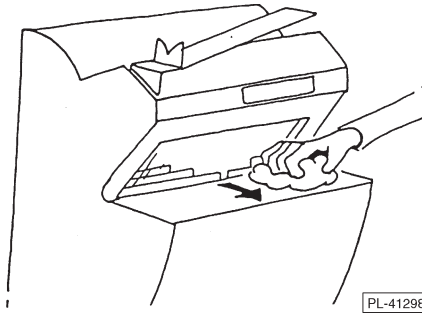

Fig. 3
- The machine cover and front and rear tables can be cleaned with a soft brush or damp cloth (Figs. 3, 4) moistened with soap and water. Rinse. Avoid dripping water in the machine cabinet. Polish with a clean dry cloth.